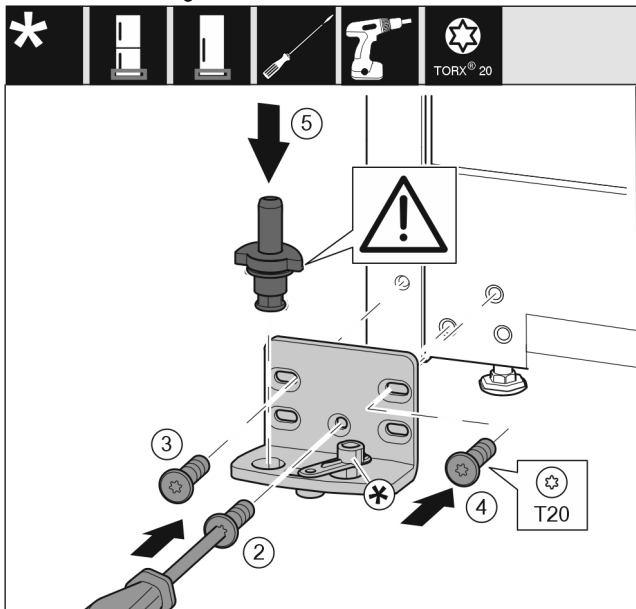

Fig. 46 *
- Place the swap bearing block on the other side and use a screwdriver to screw it on. Start with the screw Fig. 46 (2) at the bottom in the middle.*
- Tighten screw Fig. 46 (3) and screw Fig. 46 (4).*
- Insert the bearing bolt Fig. 46 (5) completely. Ensure that the latching cam is pointing towards the rear.*